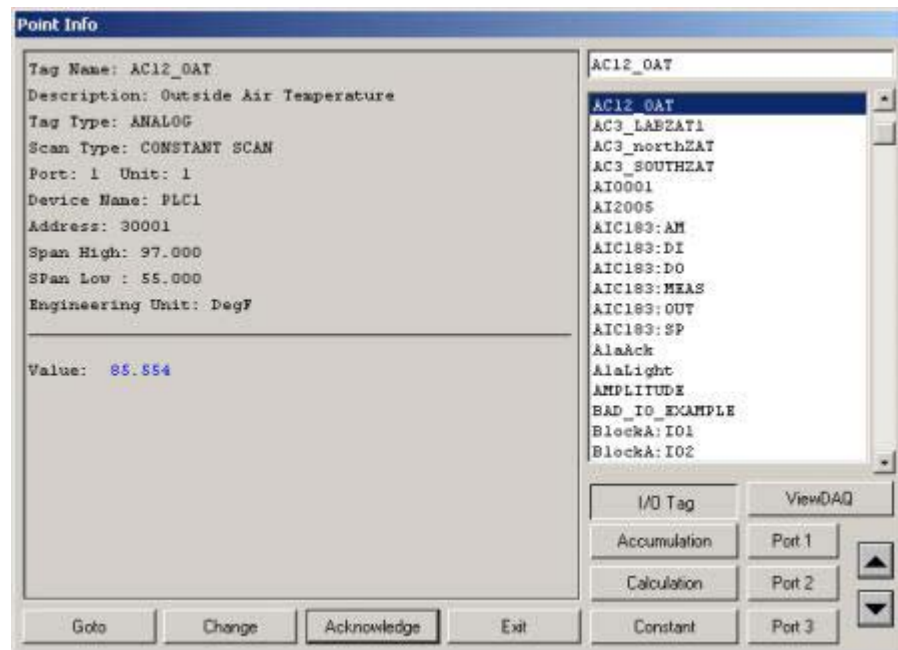

Figure 1.20 - Point Info Dialog Box
2. Select a point or Tag from the list on the left of the dialog box. (For example, pick AC12_OAT in Figure 1.20). You can also type the tag name using the keyboard.